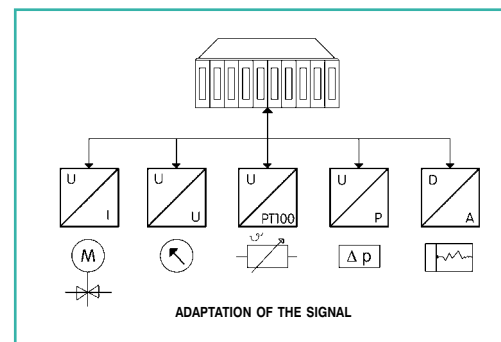

fig.1
**T**hese convert electric signals generated by sensors for measuring physical quantities such as: temperature (RTD thermocouples and PT100 thermal resistors), frequency (proximity, contacts, photoelectric cells), current (HV, Hall sensors), resistance (potentiometers), voltage, pressure, level etc., into standardised electrical signals, adapting them to the I/O of industrial PLC's, DCS's, and PC's (control), or they convert a given analog signal into a different one, adapting it to the inputs/outputs of the control, or allow remote transmission of the signal without interference via galvanic isolation (Fig. 1).